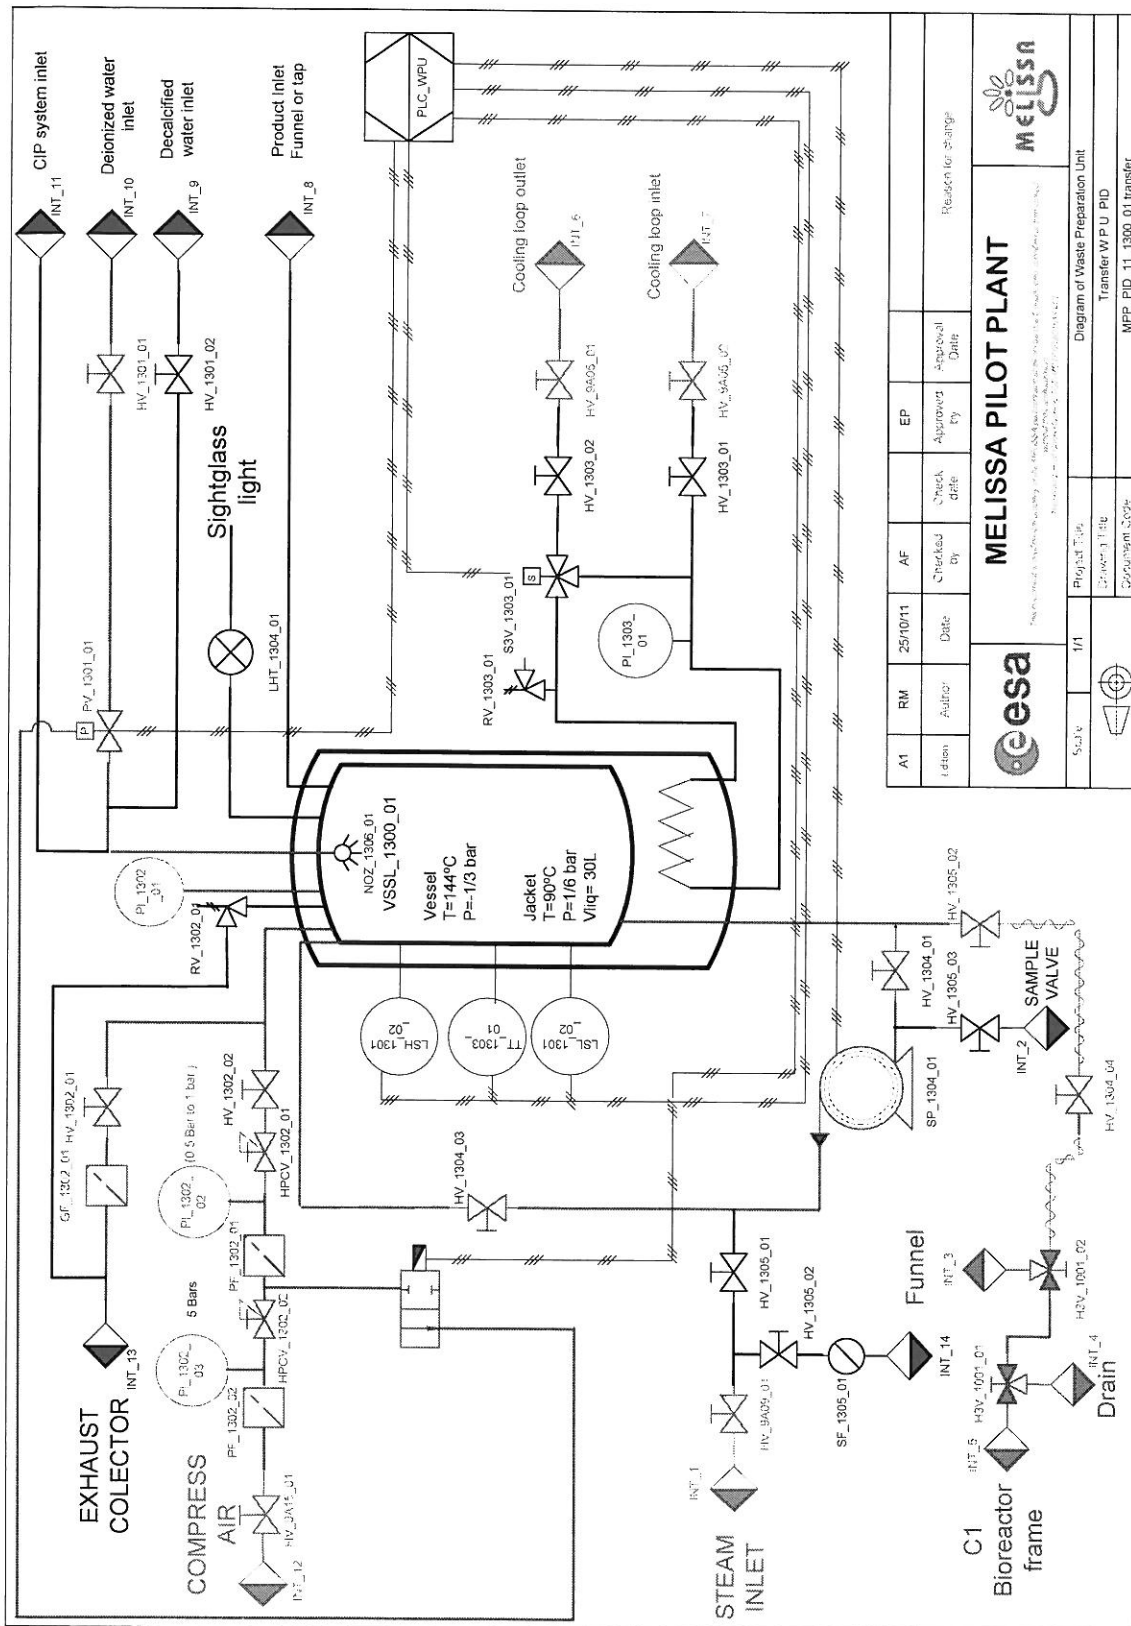

Fig. 6. P&ID of the WPU elements involved in the transfer procedure
*The P&IDs in Figures 6 and 7 in next pages describe the elements involved in the feed transfer procedure from WPU to C1 compartment in red color.*